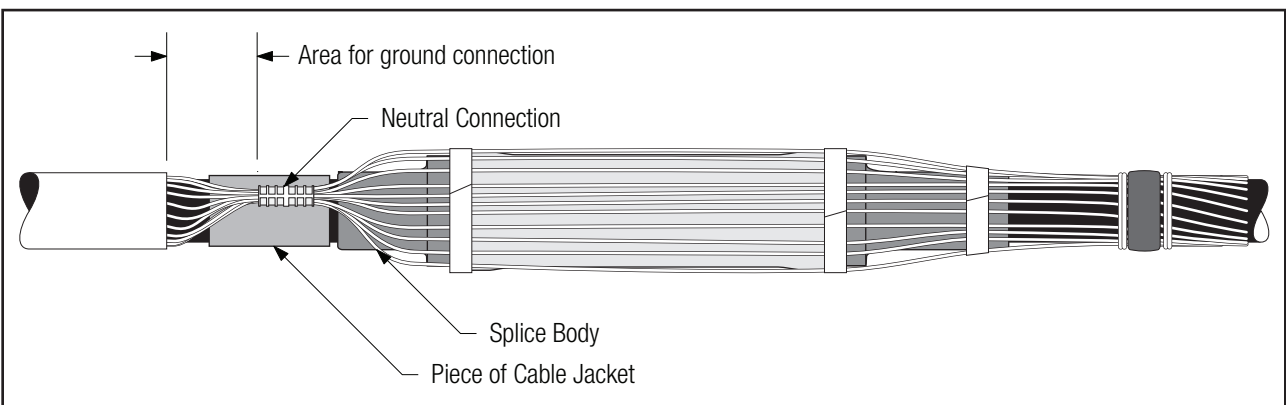

Figure 41
10.2.2 Use a piece of cable jacket, removed during cable preparation, to cover and protect exposed cable semi-con under the area where the neutral and/or ground connection will be made. Secure with tape. Ensure that the cable jacket piece does not touch the splice body (*Figure 41*).
10.2.3 Connect neutrals using a suitable compression connector ("INLINE", "C", or "H" type) between jacket end and reduced splice diameter. Keep connector profile as low as possible. Crimp connector following the connector manufacturer's recommendation (*Figure 41*).